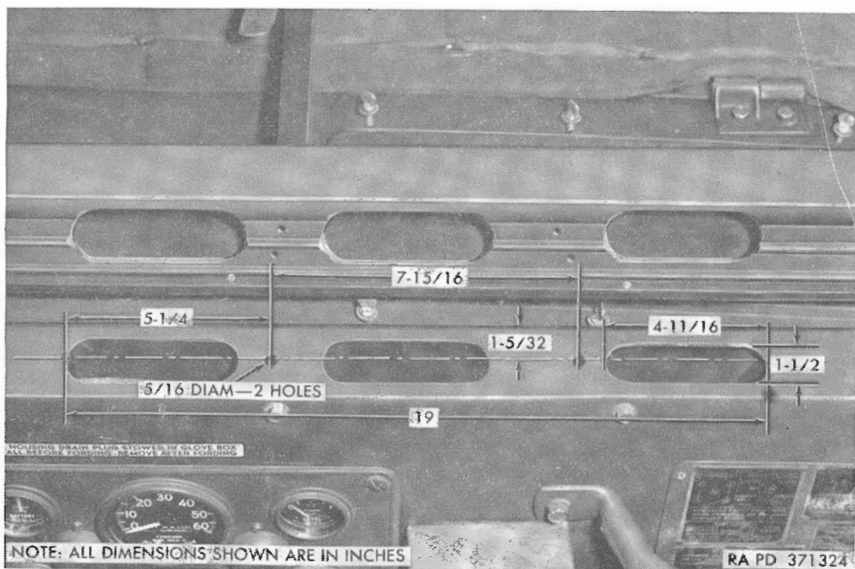
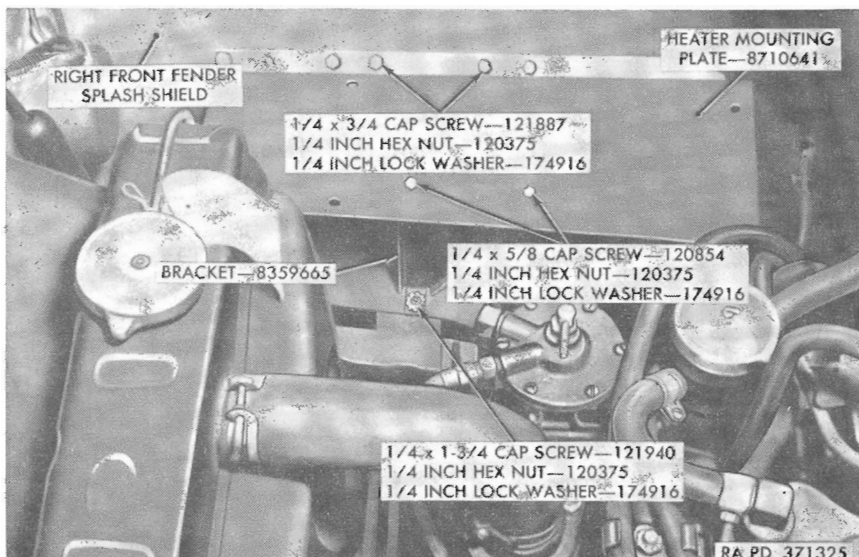

Figure 2. Cowl and windshield defroster chamber modification.
Figure 3. Heater mounting plate and support bracket installed.
h. Cut an additional hot air outlet opening in the cowl in accordance with figure 2, using a  $1\frac{1}{2}$ -inch hole saw and a hacksaw. Cut a mating hole in the windshield weatherstrip and defroster chamber.
i. Drill two  $\frac{5}{16}$ -inch diameter holes in cowl in accordance with figure 2.
j. Assemble wide end of heater mounting plate support bracket (DD) to heater mounting plate (C), using two  $\frac{1}{4}$  x  $\frac{5}{8}$  cap screws, lockwashers, and hexagon nuts.
k. Assemble narrow end of heater mounting plate support bracket (fig. 3) to right front fender splash shield by drilling a  $\frac{9}{32}$ -inch diameter hole through splash shield and fender brace, 1 inch up from vehicle frame; secure with  $\frac{1}{4}$  x  $1\frac{3}{4}$  cap screw, lockwasher, and hexagon nut.
- y.* Assemble diverter-box-to-firewall adapter (Z) to hot air inlet opening in diverter box.
- ab.* Aline mounting holes in defroster duct with  $\frac{5}{16}$ -inch diameter holes (fig. 2) drilled in cowl. Secure defroster duct to cowl, using two  $\frac{1}{4}$  x  $\frac{3}{4}$  machine screws.
- ac.* Position plate assembly (X) on top of bottom flange of dash panel, with holes in plate alined with holes previously used for the batteries box-to-dash-panel brace.